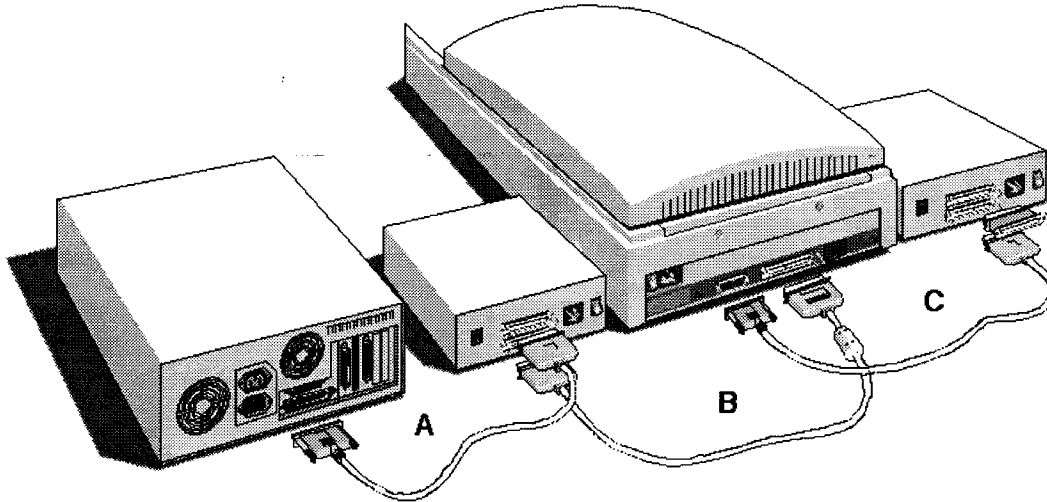

Fig. 3.6 Connecting the Model GS-700 to a PC computer which is also connected to other SCSI devices.
2. Connect the 50-pin end of the SCSI cable (cable B) already connected to another device to the 50-pin SCSI port of the densitometer (Figure 3.6).